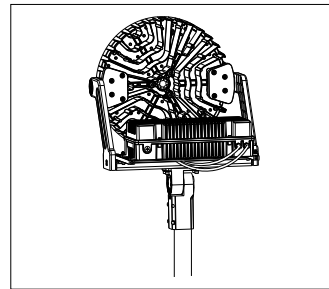

Figure 11
2. Place the bracket into the pole and secure the four bolts (Figure 11).